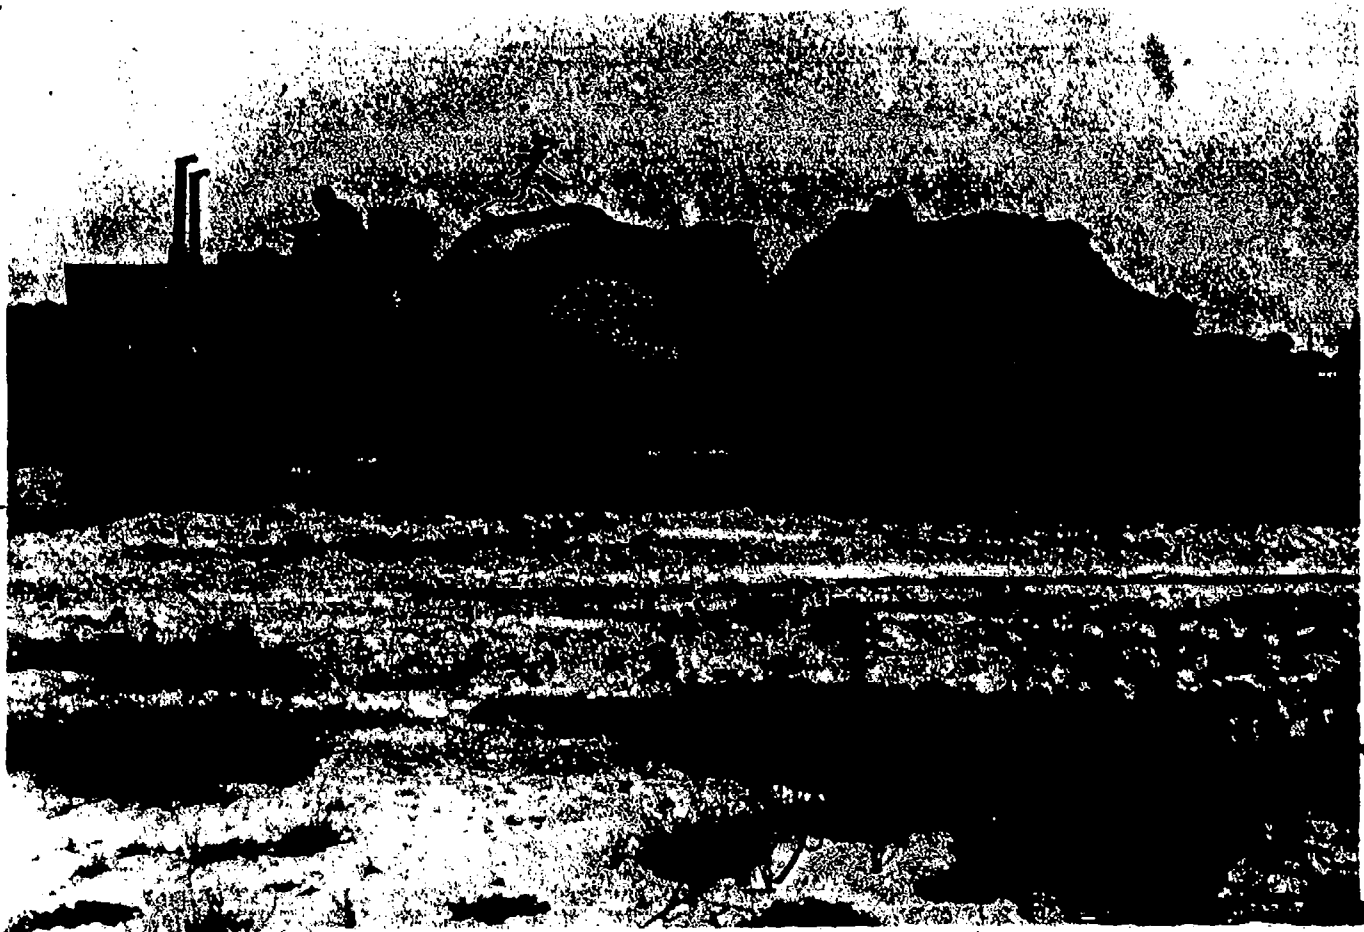

Fig 1-7. MRS-I-100 M71 tractor w/MRS-105 SM71 scraper.
- (2) MRS-I-100 tractor (fig 1-7). The MRS-I-100 is the latest wheeled tractor in the Marine Corps. This tractor is a four-wheel-drive, four-wheel-steer, 8-cylinder diesel engine, pneumatic-tired tractor designed primarily as a prime mover for towing and in combination with the MRS-105 SM71 scraper. The tractor is capable of being used in fording operations up to a depth of 60 inches. It is equipped with a reinforced pusher block and pottle hook. The tractor may be used as a push tractor for loading operations or as a tow tractor for other towed equipment.
- (b) MRS model 105 SM71 scraper (fig 1-7). This scraper is designed to operate only with the MRS-1-100 M71 tractor, and is hydraulically operated. It is capable of loading, hauling, dumping, and spreading 15 cubic yards struck, and 20 cubic yards heaped. It consists of three main functioning components; bowl, apron, and ejector. It is also equipped with air-over-hydraulic brakes.